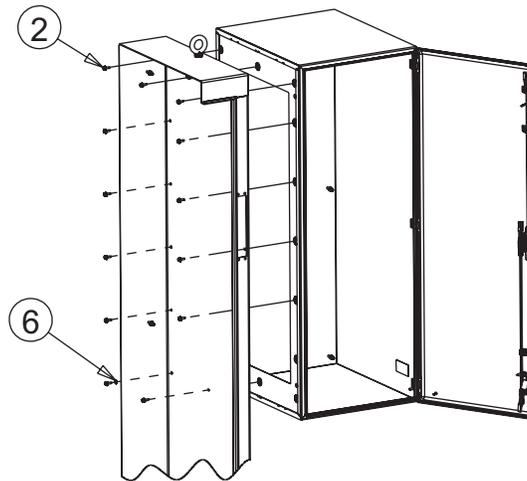

Figure 1C
4. Referring to Figure 1C, raise and support the Sequestr enclosure to the side of the control enclosure. Alignment can be aided by inserting alignment guide pins through one or two holes from the inside of the control enclosure.
5. Install thirteen (13) M6x20mm washer head cap screws (Item 2) from inside the control enclosure at the locations shown and tighten.